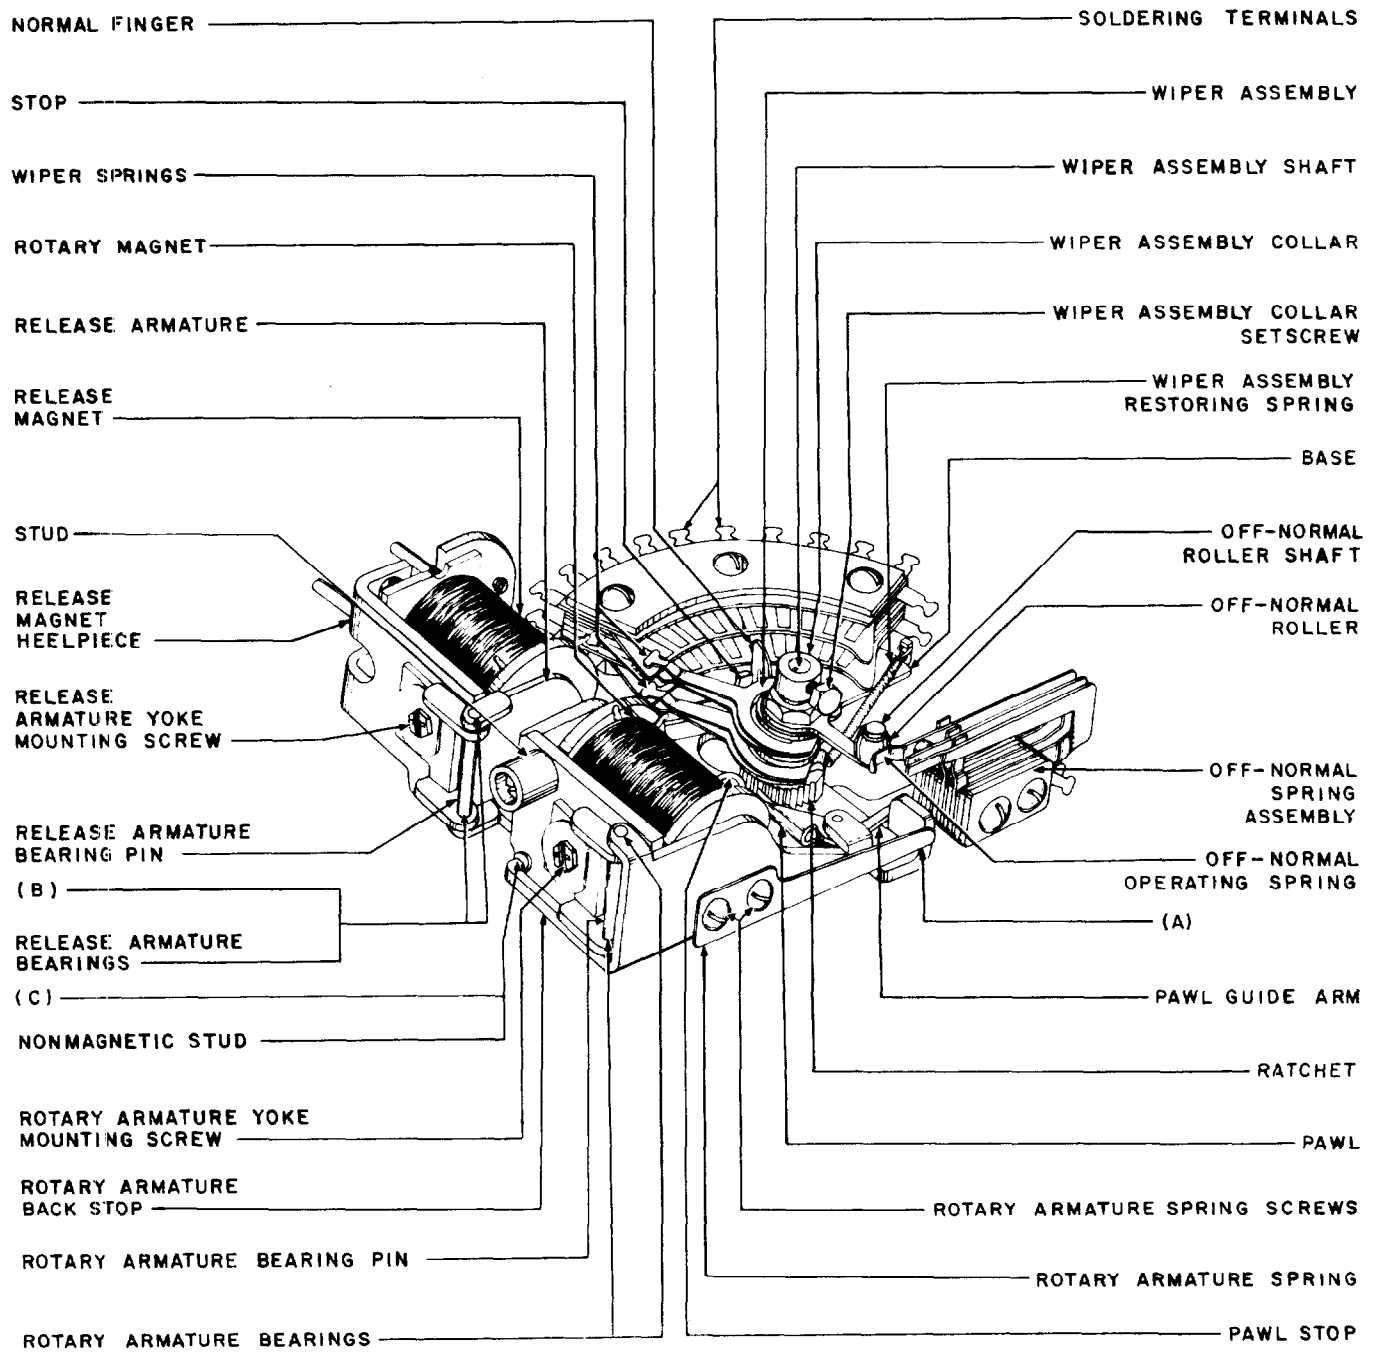

Fig. 1—204-Type Selector
1.05 *Normal Position of Selector (Fig. 1)*